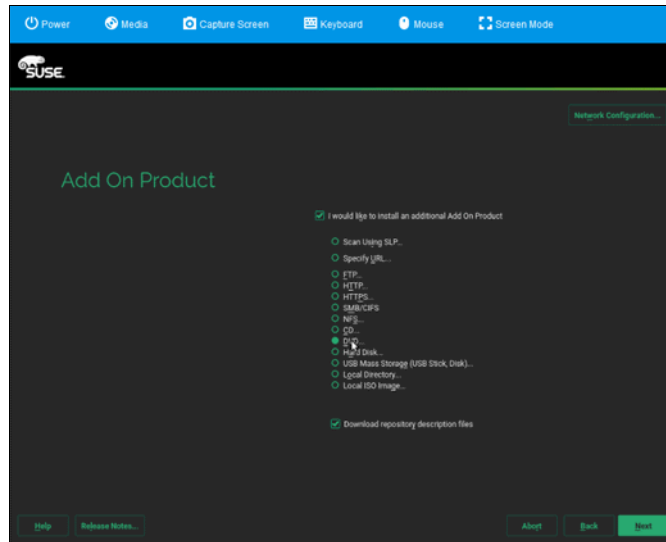

Figure 6-44 Add on product option: select DVD
11. The **Add On Product** screen will appear. This is where the updated storage drivers previously downloaded will be applied. Click **I would like to install an additional Add On product** and select **DVD**. Then click **Next**, as shown in Figure 6-44 on page 208.